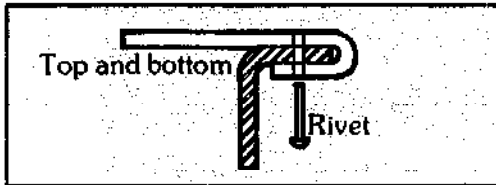

Figure 13.20—Riveting system for stove top and bottom.
12. Rivet the stove top and bottom to the body flanges. To prevent the stove sides from buckling and pulling the seams apart under the stresses of repeated heating and cooling, rivet through the top and bottom and the body flanges as shown in Figure 13.20.